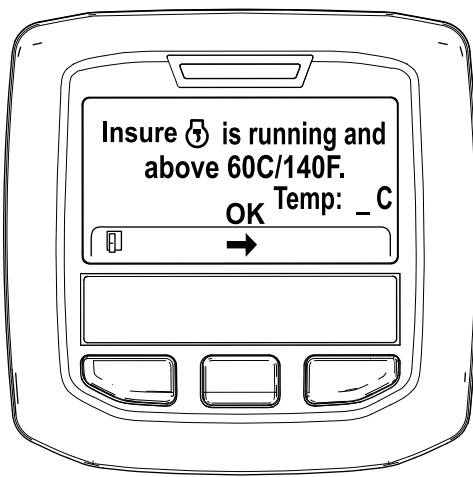

Figure 45
5. If the coolant temperature is below 60°C (140°F) the "Insure  is running and above 60C/140F" message displays. (Figure 45).